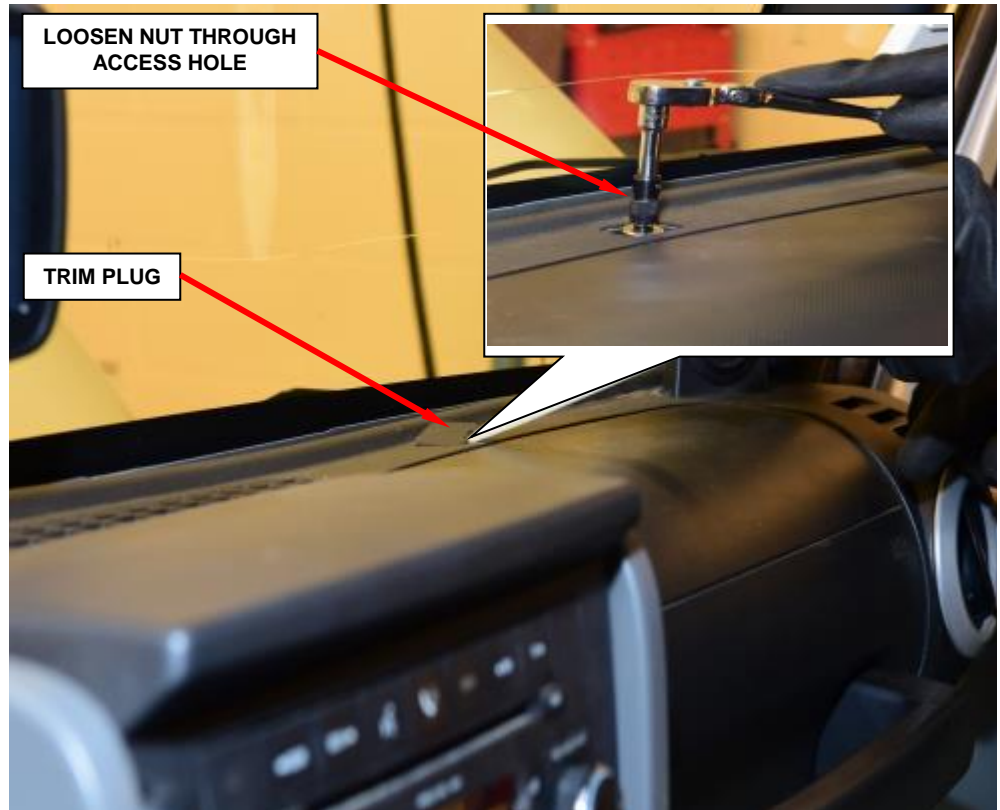

Figure 74 – Trim Plug Access Hole
2. Remove the trim plug from the access hole in the top of the instrument panel between the windshield and the forward edge of the passenger airbag door (Figure 74).
3. Working through the access hole, loosen the nut that secures the passenger airbag upper bracket and the instrument panel armature to the stud near the windshield fence line (Figure 74).